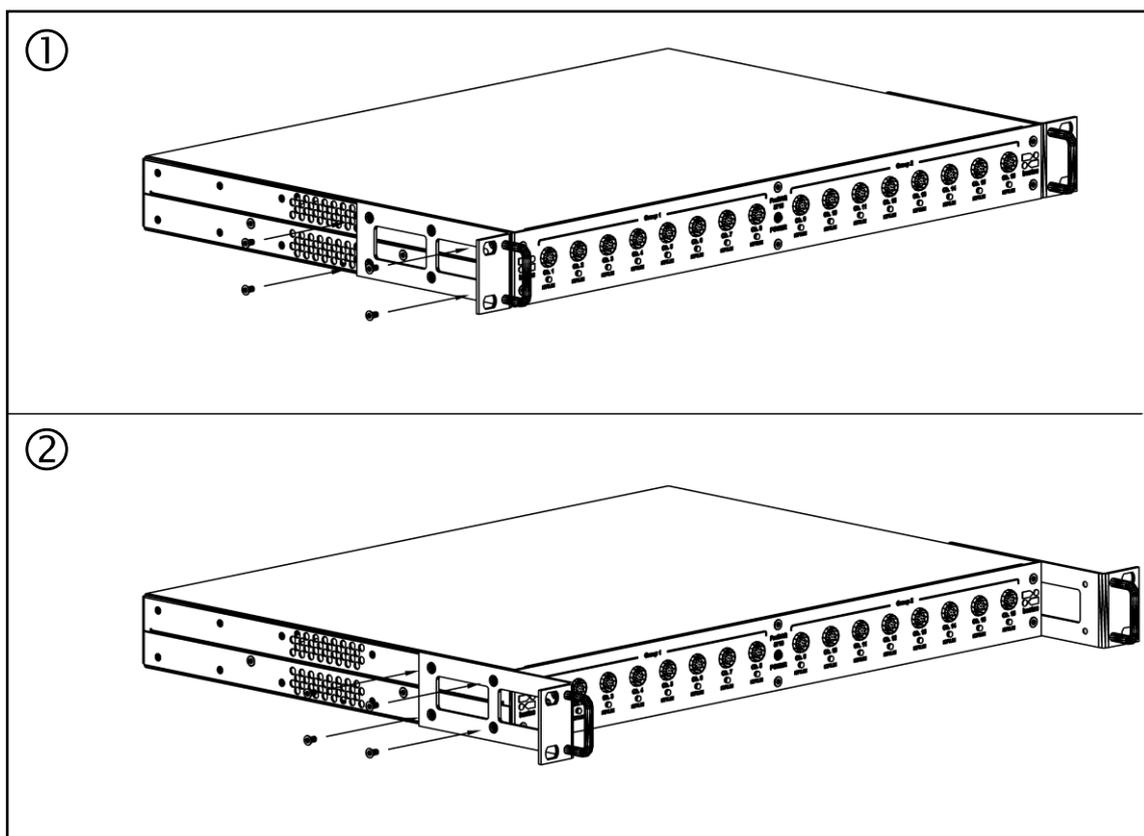

Figure 4 - Rack-mount Brackets Attachment Positions
Then attach one of the rack-mount brackets on each side of the ProDAQ 5720 by using four M3 x 6mm countersunk screws each. The brackets can be attached in two different positions, see Figure 4, ① and ②.
Position 4 can only be used with the frontal rack-mount bracket is in position 2 (see Figure 4). When reverse mounting is used, Position 4 should not be used at all to not block off the airflow.